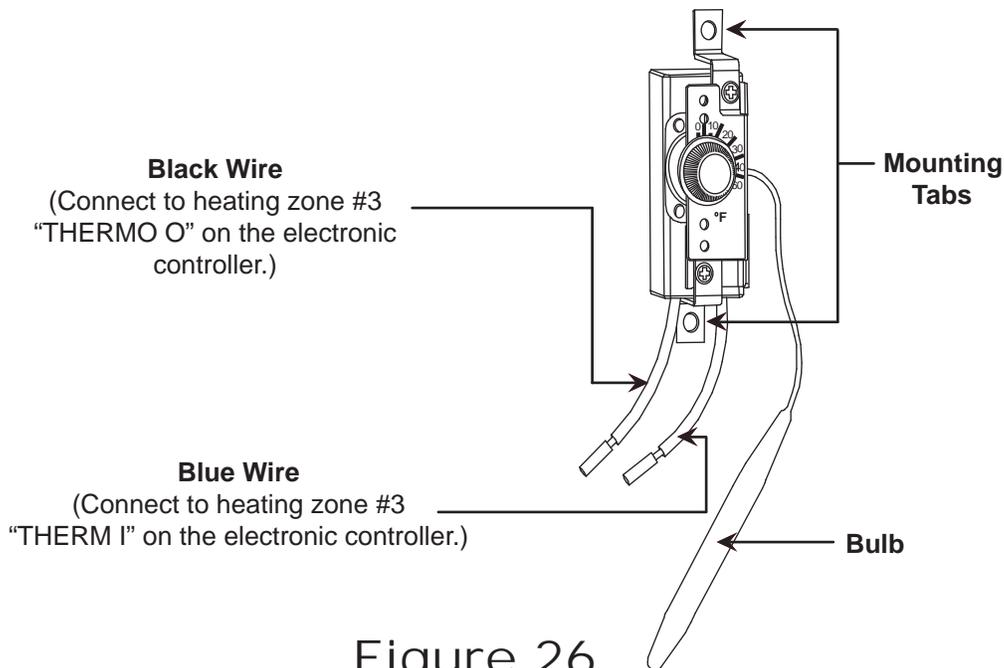

Figure 26
Typically, only the bulb of the thermostat needs to be physically mounted in the area requiring heat (usually in close proximity to the domestic water pump). Reference Figure 26.
The selected mounting location should allow for easy operator access. Reference Figure 26.
2. Once the thermostat has been completely wired, permanently mount the thermostat in place. Reference Figure 26.
3. Connect both wires to the appropriate leads of the thermostat. Reference Figure 26.